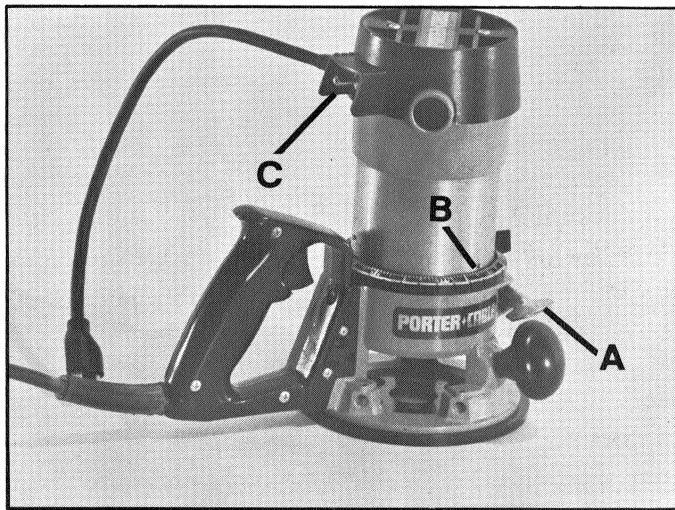

Fig. 5
2. Loosen Clamp Screw (A) Fig. 5 to allow the Power Unit to be set in the base.
3. With the Motor switch (C) positioned as shown in Fig. 5, insert the Motor Unit into the base aligning lower pin (B) with groove in base.